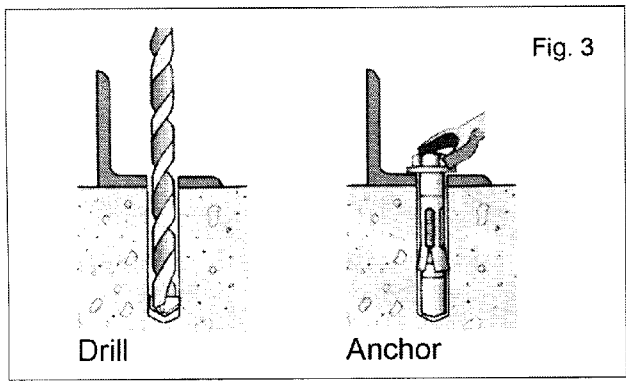

Fig. 3
7. Remove frame and drill holes. Install anchors (UMANC) in holes. See figure 3.
8. Attach frame to floor with anchor bolts. See figure 3.